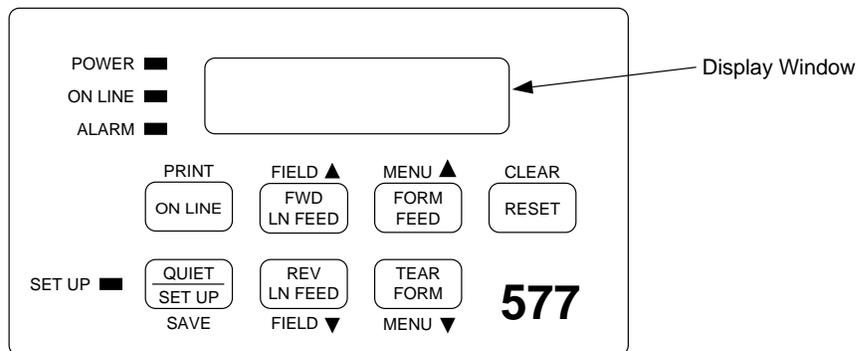

Figure 5-5. Model 577 ROP Control Panel
- 11.1. Ensure that the ROP is in the off-line state. See Figure 5-5. If OFFLINE does not appear in the display window, press the **ON LINE** button.